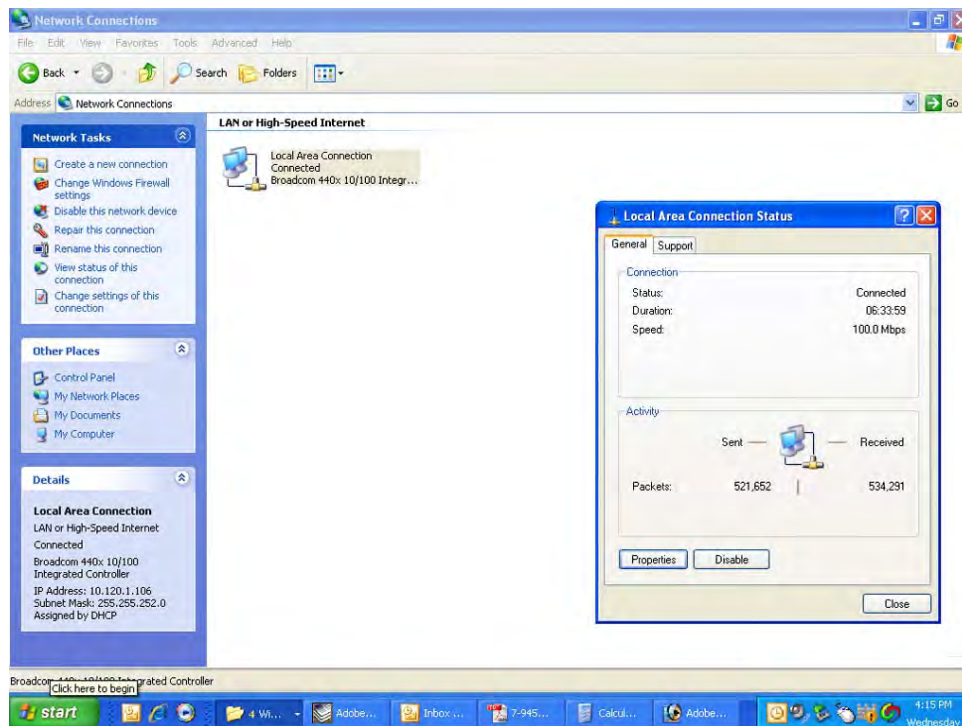

Figure B4: Select the “Properties” tab.
- 5) The "Local Area Connection Status" box will open. Single click the "Properties" tab as shown in **Figure B4**. **Note:** If you do not have the cable connected between the service computer and the TTA front panel the "Local Area Connection Status" box will not open. Instead proceed to step 6.